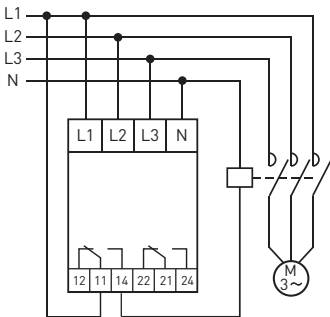

Fig. 4 – Relay wiring diagram
2. Connect the relay as per wiring diagram (refer to Figure 4).